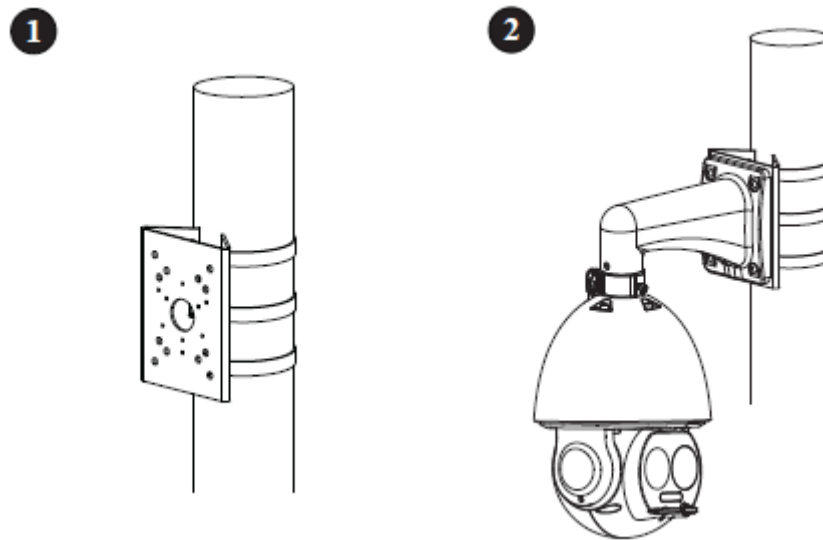

Figure 3-8
Fix the installation hold hoop and the pole-mount bracket on the pole and paste glass cement to make it sealed and waterproof, as it is shown in Figure 3-8 (1).
Check if the thermal hybrid dome is installed firmly and complete the installation of the unit device, as it is shown in Figure 3-8 (2).